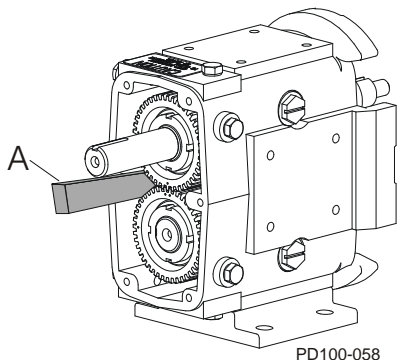

Figure 37 - Block Shaft Rotation
1. Prevent the shafts from turning by placing a wedge (Figure 37, item A) between the gears. Use a spanner wrench or drift punch to remove the gear lock nut. The gears will be removed later.